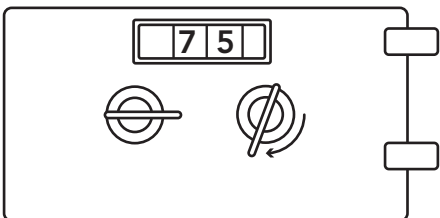

FIG. 6
7. Turn customer key back as far as it will go. The bolt will extend slightly when this is done. (Figure 6)